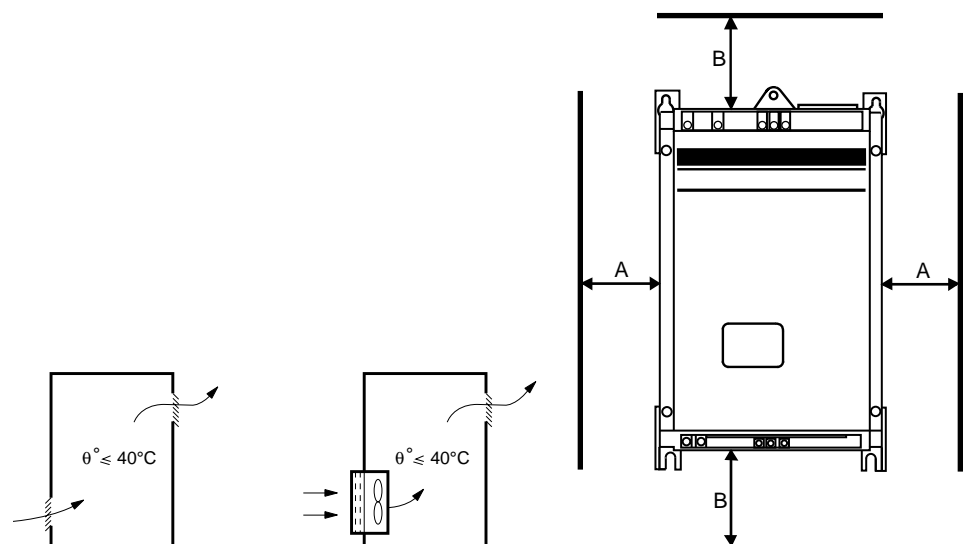

Figure 2-5 Ventilation and Clearances for 1.5 to 50 hp Controllers
- Leave sufficient space around the controller: $A \geq 2$ in (50 mm), $B \geq 4$ in (100 mm), see Figure 2-5.
- Leave sufficient space around the controller: A \geq 2 in (50 mm), B \geq 8 in (200 mm), see Figure 2-5.